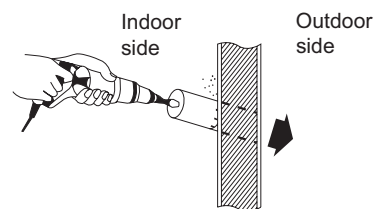

Fig. 2-194
- (4) Using a sabre saw, key hole saw or hole-cutting drill attachment, cut a hole in the wall. (Fig. 2-194)